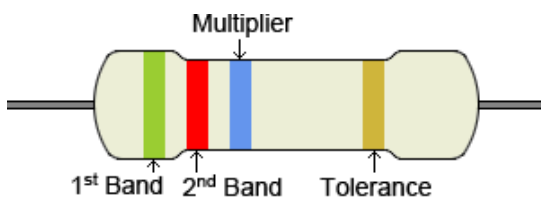

Figure 1a
Resistor Colour Code: The resistance values along with the tolerance are colour-coded on the resistors using 4 bands. The 1st and the 2nd bands give the first two significant digits of the resistor value, while the 3rd band gives the number of zeros to the right of the two significant digits (called the multiplier band). The ten colours and the corresponding digits (0-9) are as follows: **Black (0), Brown (1), Red (2), Orange (3), Yellow (4), Green (5), Blue (6), Violet (7), Grey (8), White (9)**. A resistor with its colour band is shown in Fig. 1a.